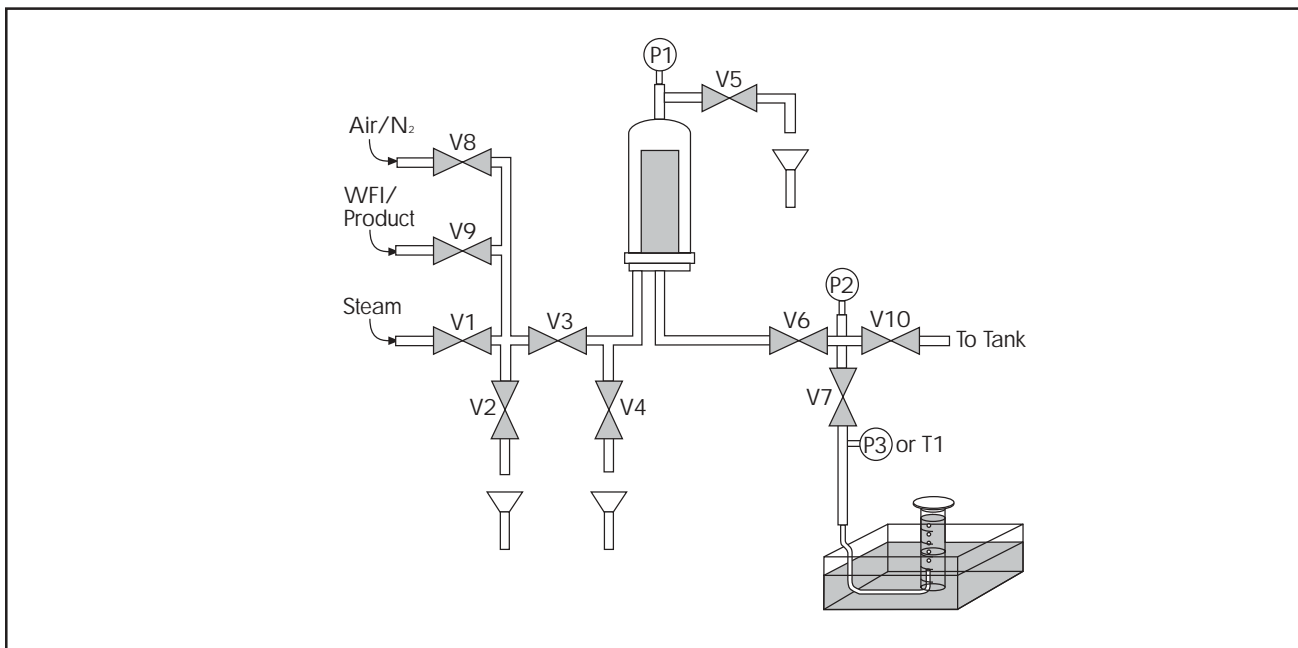

Figure 4-5: Typical sterile filter cartridge and housing assembly for diffusion test
1. Allow excess water to flow out of the down stream side of the system. (Open V8, V3, V6, and V7.) Refer to Figure 4-5.
5. Measure the diffusion flow rate with a flow meter or a water filled inverted graduated cylinder. (See Figure 4-5.)